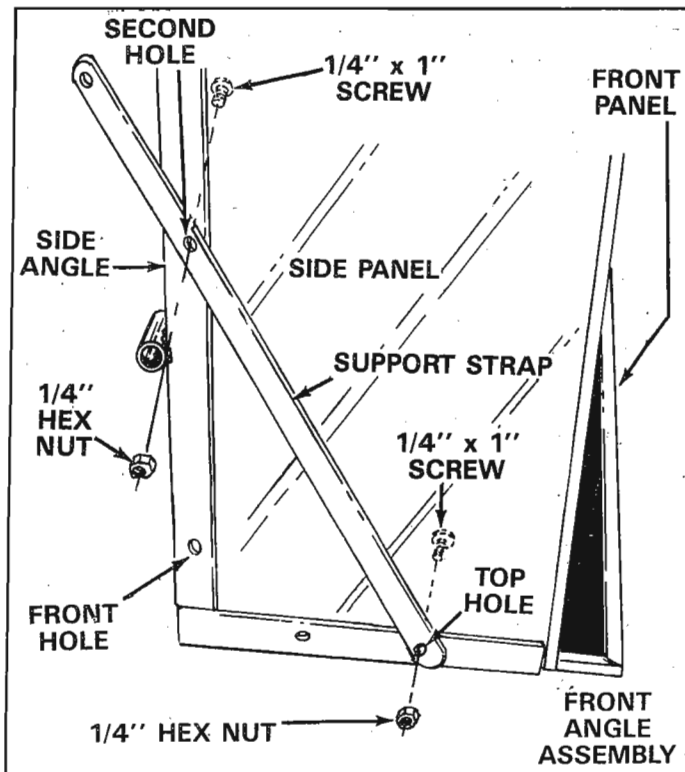

FIGURE 6
- Place one side panel in position, against side angle and down on top of front panel. Start one 1/4" x 1" truss head screw through the second hole in side panel, support strap and side angle. Secure with hex nut. See figure 6. **Make only finger tight as this time.**
- Assemble one 1/4" x 1" truss head screw through top hole in side panel, support strap and front angle assembly, then remove hex nut from screw assembled in step 9, next place support strap over these two screws and secure with hex nuts. See figure 6. **Make only finger tight at this time.**
- Assemble one 1/4" x 3/4" truss head screw through bottom hole in side panel and front angle assembly and another 1/4" x 3/4" truss head screw through front hole in side panel and side angle. Secure with flat washers and hex nuts. See figures 6 and 7. **Make only finger tight at this time.**